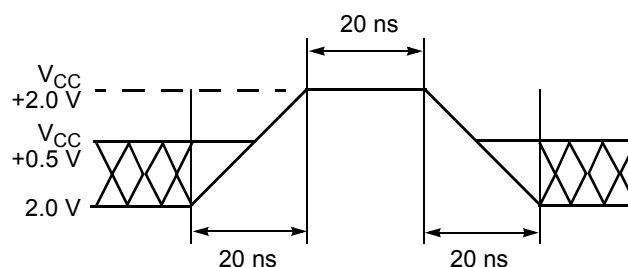

Figure 10. Maximum Positive Overshoot Waveform
1. Minimum DC voltage on input or I/O pins is −0.5 V. During voltage transitions, input or I/O pins may overshoot  $V_{SS}$  to −2.0 V for periods of up to 20 ns. Maximum DC voltage on input or I/O pins is  $V_{CC} + 0.5$  V. See Figure 10. During voltage transitions, input or I/O pins may overshoot to  $V_{CC} + 2.0$  V for periods up to 20 ns. See Figure 11.
2. Minimum DC input voltage on pins A9, OE#, ACC, and RESET# is −0.5 V. During voltage transitions, A9, OE#, ACC, and RESET# may overshoot  $V_{SS}$  to −2.0 V for periods of up to 20 ns. See Figure 10. Maximum DC input voltage on pin A9, OE#, ACC, and RESET# is +12.5 V which may overshoot to +14.0 V for periods up to 20 ns.